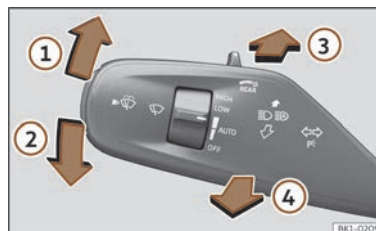

Fig. 96 Turn signal and main beam lever.
- From the neutral position, press the turn signal and main beam headlights lever forwards >>> **Fig. 96 ③.**
- **EITHER:** if main beam assist is on, pull the turn signal light and main beam headlights lever back >>> **Fig. 96 ④.**